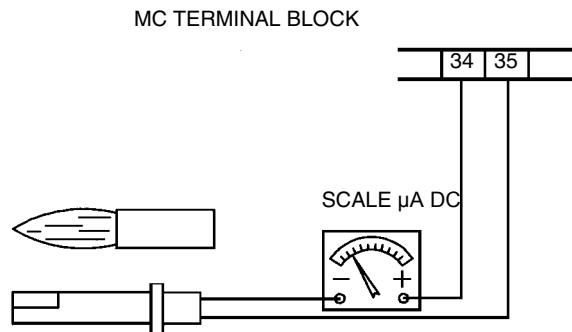

Fig. 26
- Check the detection current (Fig. 26).